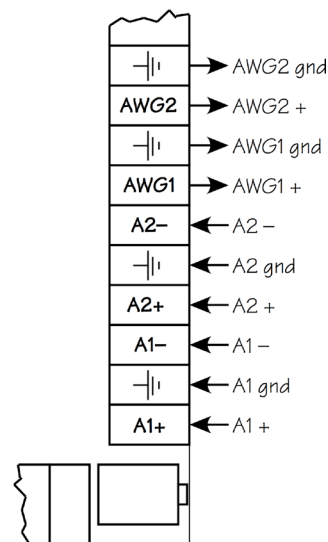

Fig. 2—Red2 terminals
Figure 2 is the arrangement of the connections on the IOBoard. Calibration requires measuring and adjusting voltages at some of the terminals and then using these output ports to automatically calibrate the input ports.
3. Connect your digital multimeter to the AWG1 terminal and its ground. See Fig. 2.
10. On the “AWG Output” line, adjust “Offset (SE)” to get the DMM to read the value just calculated.
2. Connect AWG1 to A1+ and AWG1’s ground to A1-. (See Fig. 2.)